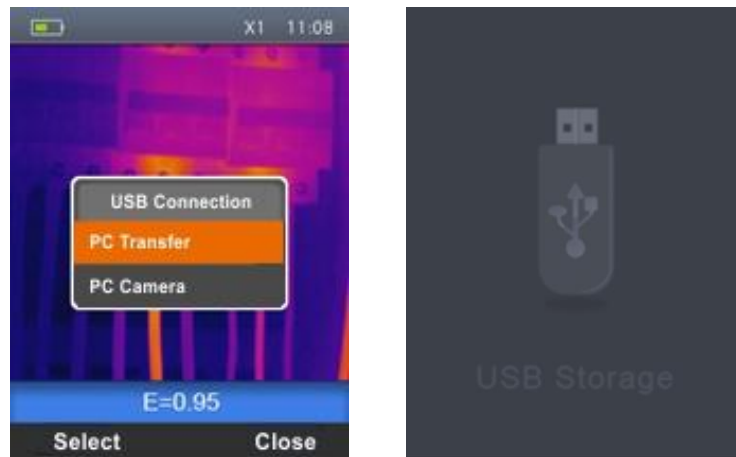
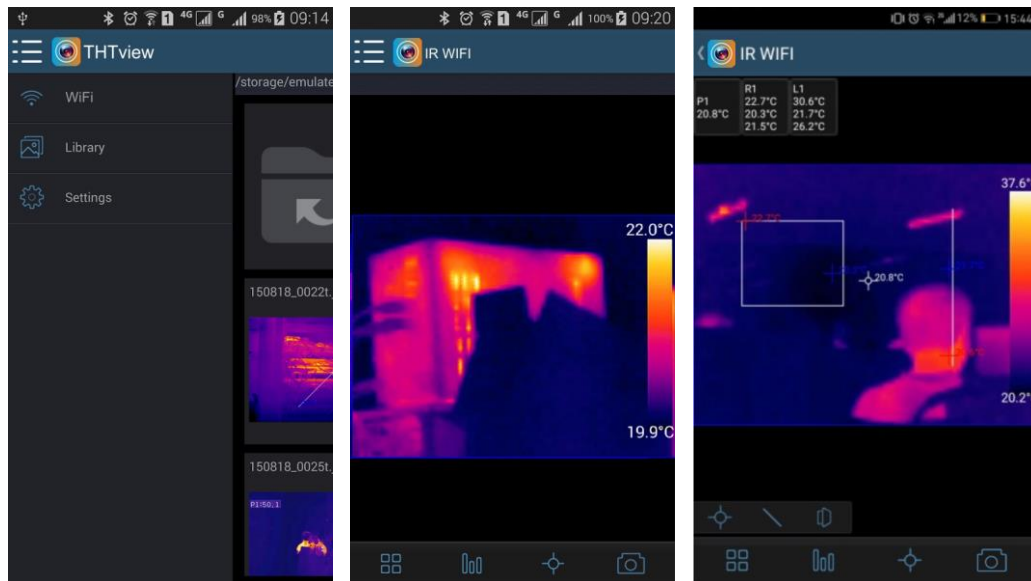

Fig. 38: Transferring images/videos onto the PC
Fig. 41: Visualization of image in real time condition
2. Connect the USB cable to the instrument (see Fig. 3 – Part 16) and to the PC. The following screen (see Fig. 38 – Left side) is shown on the display:
4. Use the keys \oplus or \ominus to select the option “PC Transfer” and press the “Select” key. The screen Fig. 38 – Right side is shown on the display.
5. Touch the menu icon  and select the "WiFi" option (see Fig. 38 - left side) to activate the real-time display of the image on the instrument on the mobile device display. The screen of Fig. 41 - center side is shown
Including “Spot” object on image (see Fig. 41)
Including “Line” object on image (see Fig. 41)
Including “Area” object on image (see Fig. 41)